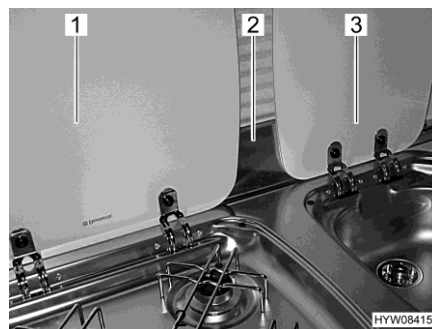

Fig. 11 Flame protection and covers
- Remove flame protection (Fig. 11,2) and store securely.
- Close sink cover (Fig. 11,3) and gas cooker cover (Fig. 11,1).